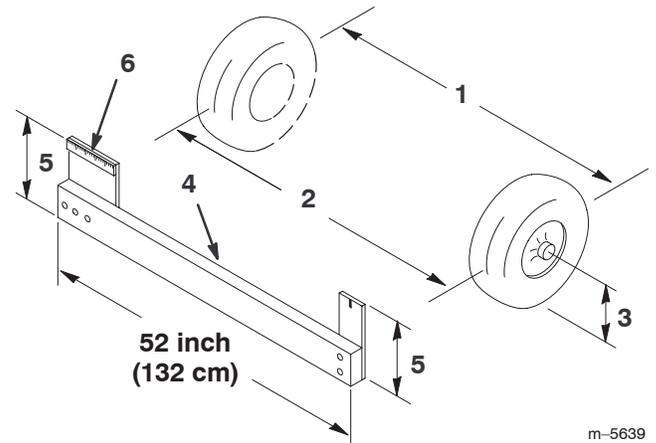

Figure 38
2. Measure the distance between both of the front tires at the axle height at both the front and rear of the front tires (Fig. 38). A fixture or alignment gauge is needed for the rear measurement of the front tires at axle
height. Use the same fixture or alignment gauge to accurately measure the front of the front tires at axle height (Fig. 38).